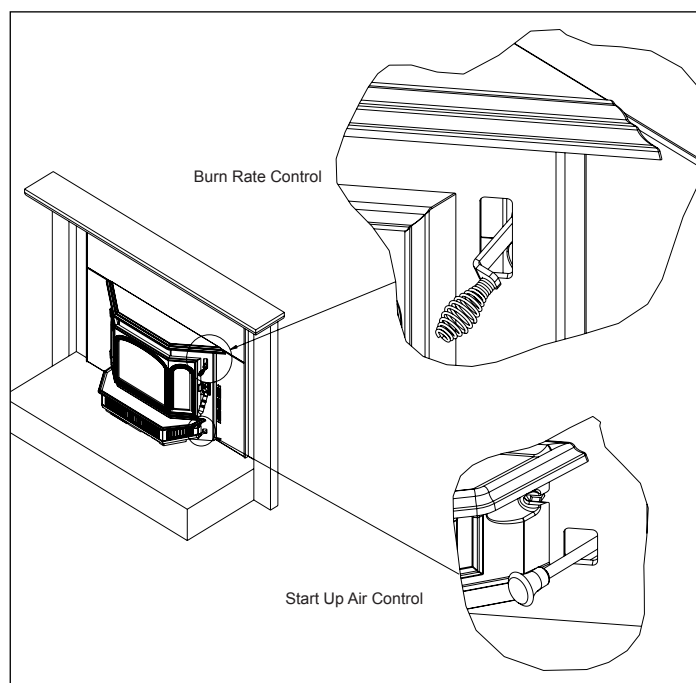

Figure 11.1 Start-up and Burn Rate Air Controls
Figure 11.1 on page 11.
- Push the Start-Up Air Control all the way back until it stops and then pull forward to the front of the appliance until it stops. **Figure 11.1.**
- The fire is now controlled by the air supplied by the Burn Rate Air Control. **Figure 11.1.**
- Push the Start-Up Air Control 3/8 inch (9.5mm) back to allow rear air to enter the firebox. **Figure 11.1.**